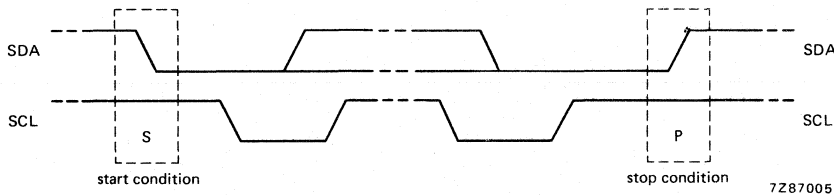

Fig. 4 Definition of start and stop conditions.
**Start and stop conditions (see Fig. 4)**